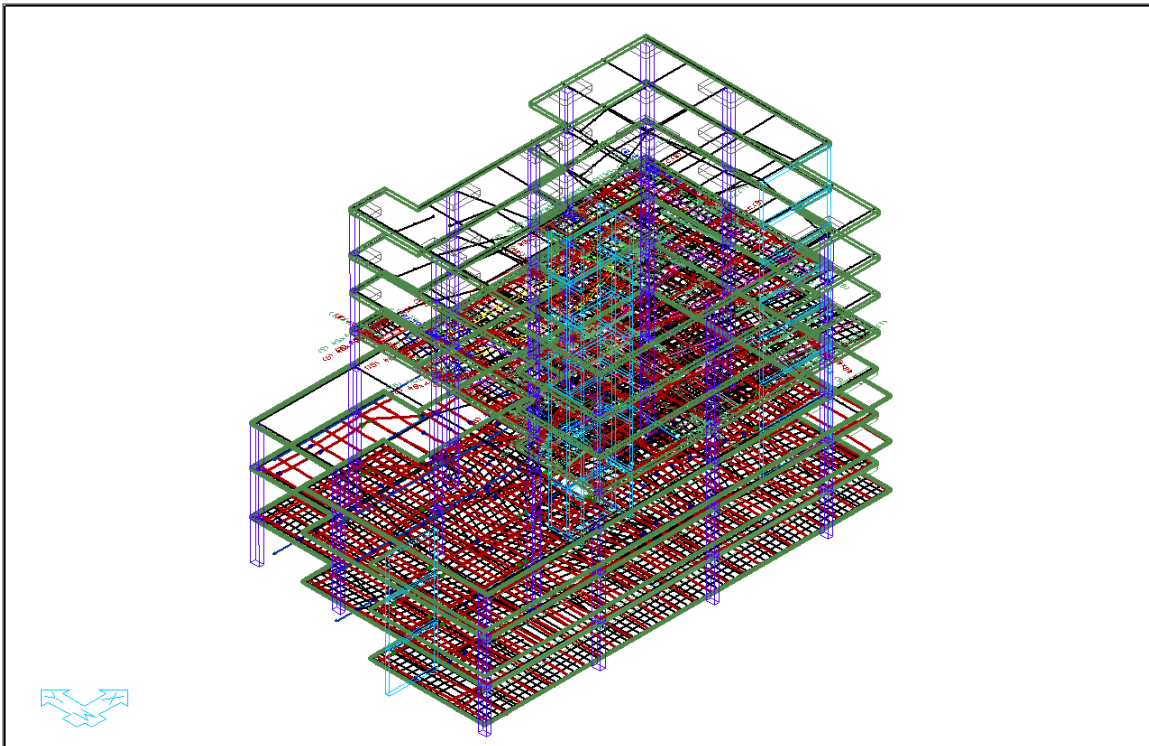

FIGURE 10-36
- Click on the **Top-Front-Right View**  icon in the *Bottom Quick Access* toolbar. This will bring you to the view of the model shown in **FIGURE 10-36**.